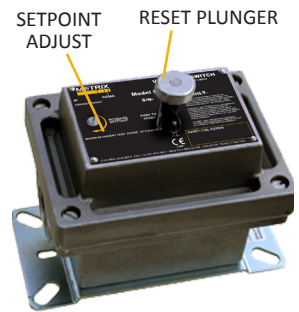

FIGURE 3: MODEL 5550 setpoint adjustment and manual reset.
The movable trip plate mass inside the switch housing is free to move on an essentially frictionless pivot, and is restrained in its untripped position by a spring. By turning the setpoint adjustment screw (Figure 3), changes are made to the spring's direction, and to a much lesser extent, its tension. Thus, the spring mechanism exerts an essentially constant force on the trip plate and turning the setpoint adjustment screw changes the direction of this force. Turning the setpoint screw clockwise (CW) aligns the spring force more fully in the untripped direction (below the pivot – see Figure 1), making it more difficult to trip the device. Turning the setpoint screw counter-clockwise (CCW) does the opposite, making it easier to trip the device.